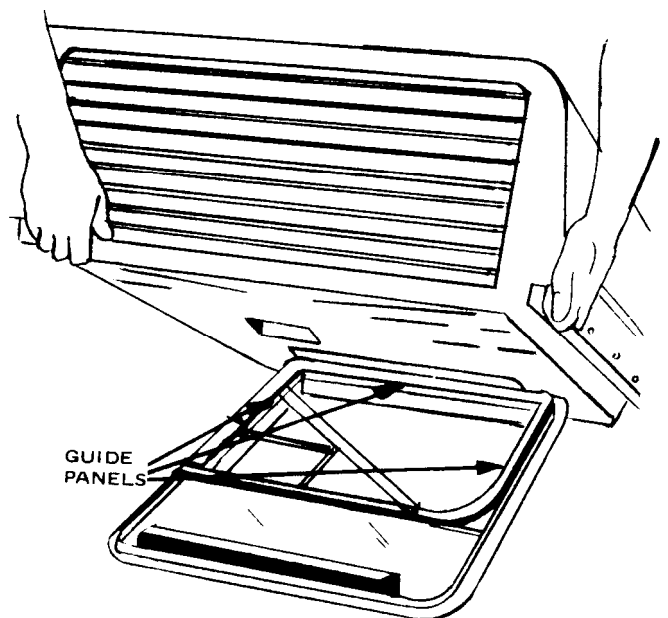

FIGURE 5
5. Set air conditioner on roof flashing, using the guide panels to align return air section on unit with the corresponding opening in roof flashing. **CAUTION: Do not damage' the foam tape sealer on top of roof flashing.** Figure 5.